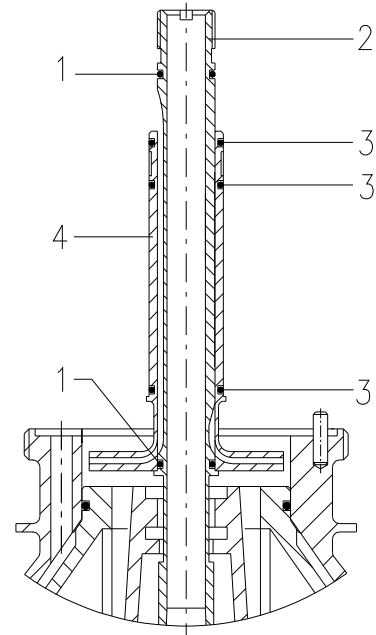
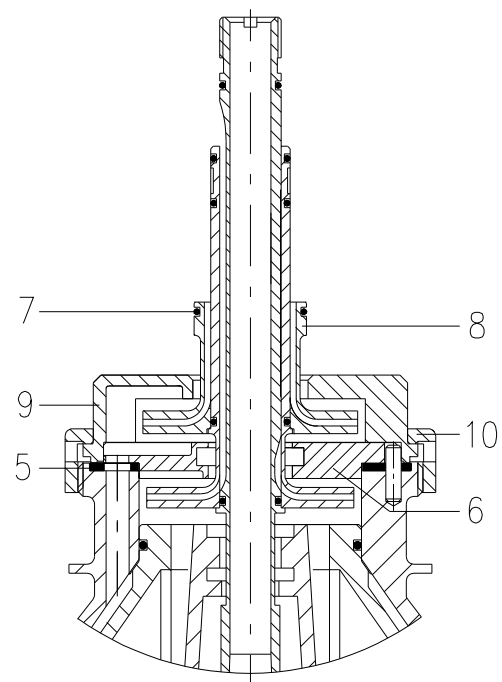
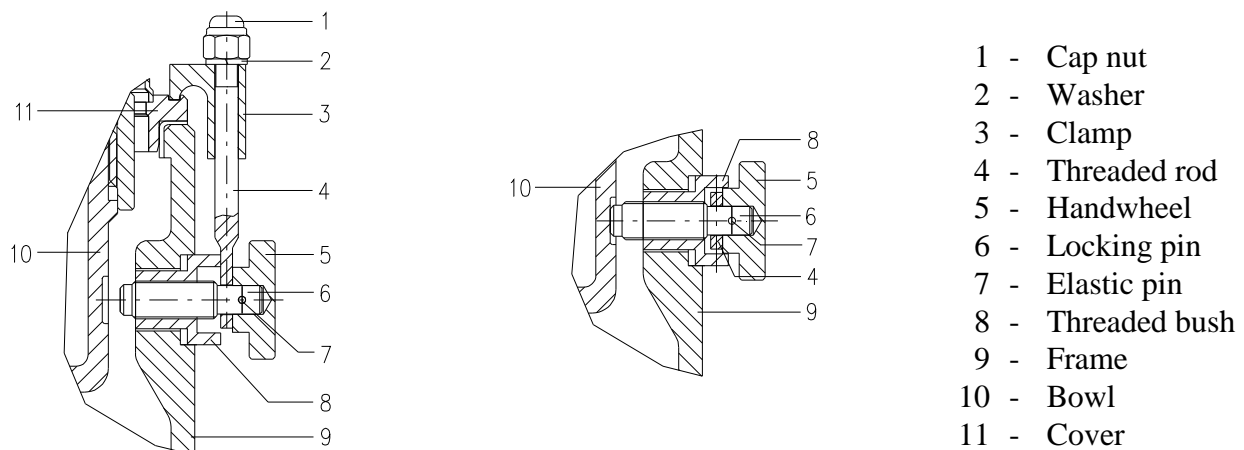
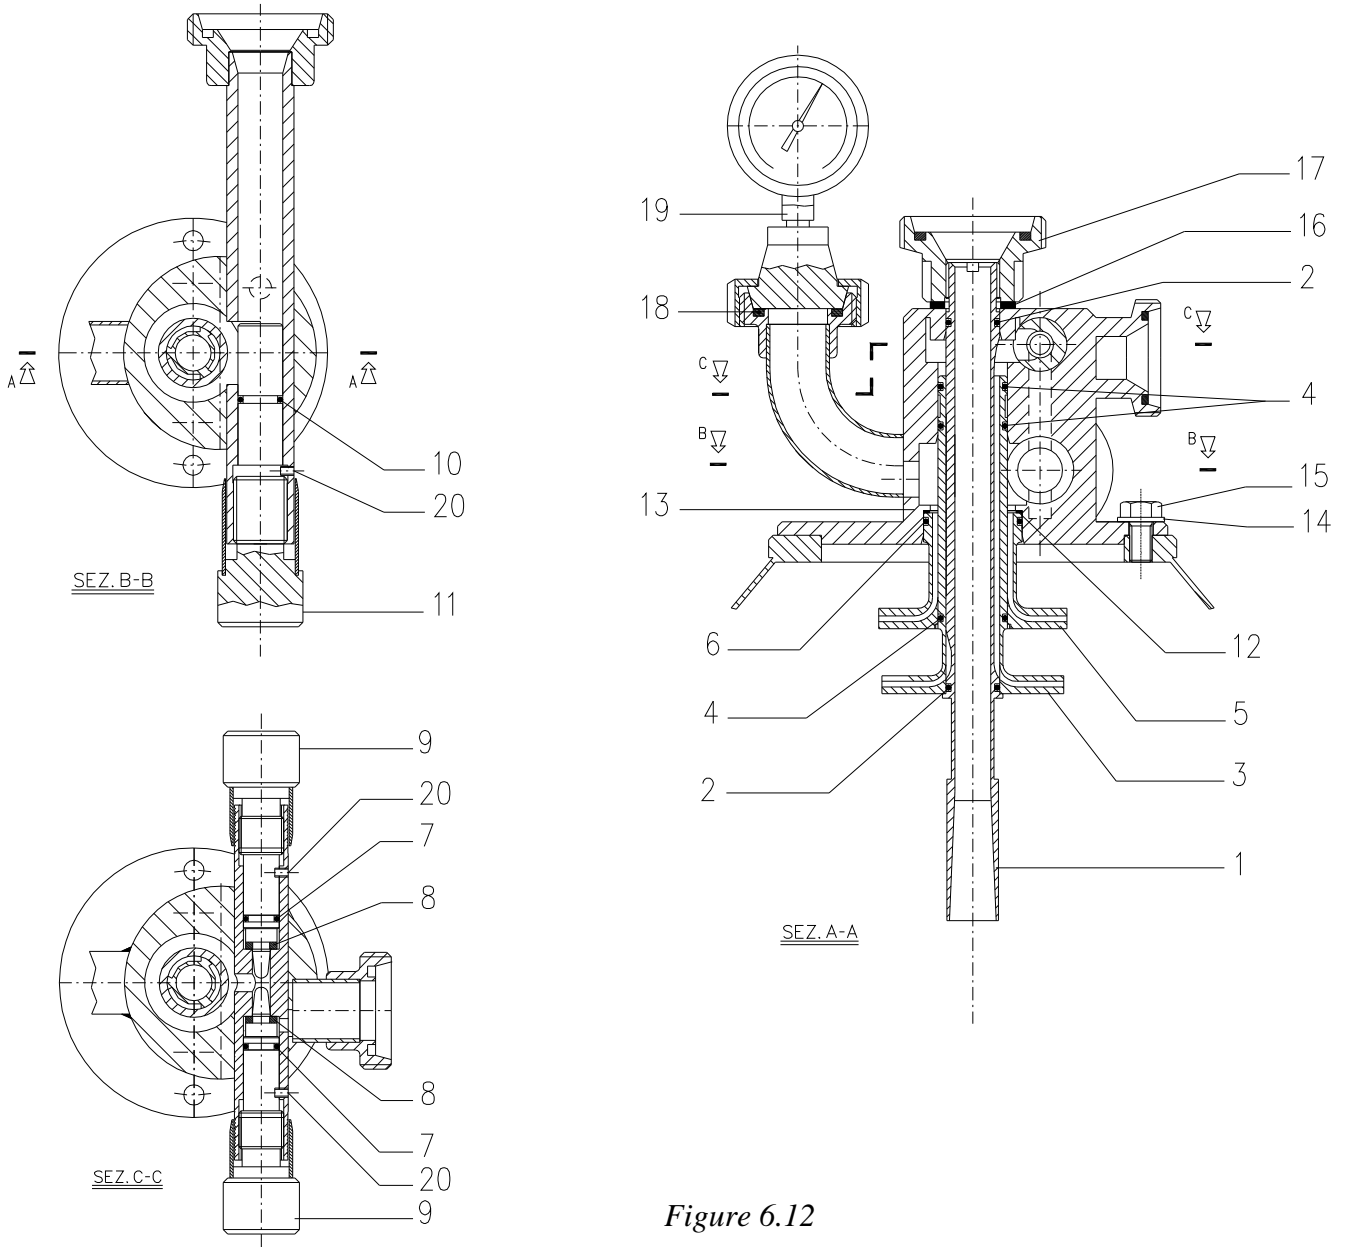

Figure 6.9
Figure 6.10
Figure 6.11
Figure 6.12
- 13) After carefully cleaning the groove, insert the **OR gaskets** (fig. 6.9 - part 1) on **feeding pipe** (2) and place it down.
- 14) Apply the three **OR gaskets** (3) in the **cream centripetal pump** (4), and insert it on feeding pipe.
- 15) After carefully cleaning the suitable seat, apply the **gasket of dividing disk** (fig. 6.10 - part 5) on bowl hood top checking that the pin on the bowl hood correctly enter in the suitable hole on the gasket.
- 16) Apply the **dividing disk** (6) aligning the “0” with the “0” of the bowl hood.
- 17) Apply the three **OR gaskets** (7) in the **skim centripetal pump** (8), and insert it on feeding pipe.
- 18) Place the **finned cover** (9), and take care that the “0” marks aligned.
- 19) Using the spanner (09.060.0) and the mallet (09.030.0), screw (left-hand thread) the **small lock ring** (10).
- 20) Unscrew the locking pins (fig. 6.11), by turning anticlockwise the handwheel (5).
- 22) Place the cover on the frame, paying attention to not damage threads on feeding pipe, and fix it down tightly by suitable blockings (fig. 6.11). Proceed as follows:
- Lay the clamp (3) to the cover (11) and fix it down by screwing the cap nut (1).
Proceed according with the following procedure (fig. 6.12):
Block the shutter screwing the appropriate screw STCEIEPS M 4X 6 (20-fig.6.12).
The correct position of pumps is shown by fig. 6.10; the pump is in the middle of the corresponding chambers of the bowl. This position is obtained by inserting a few spacers (12) - fig. 6.12 between the centripetal pump (5) and the inlet-outlet flow unit body (13). The number and thickness of spacers may vary only after the replacement of some parts of the vertical shaft unit (Tab. 06) and/or of the bowl (Tab. 04) and/or of the inlet-outlet flow unit (Tab. 05). In this case it is advisable to vary corresponding number and thickness of spacers indicated on technical card § 3.3. The total thickness of spacers is determined by the following relation:
Proceed in inverse order than assembly (see Fig. 6.12).
- loosen the cap nuts (1 - fig. 6.11) of the blocking elements;
- remove the clamp (3 - fig. 6.11). This allow the threaded rod to rotate and assume the horizontal position;
- take out the cover (11 - fig. 6.11).
- 2) Screw the **locking pins** to prevent bowl rotation (fig. 6.11). To do this:
- screw the first locking pin (6), by turning clockwise the handwheel (5). It fit the circular groove on the bowl body. Do not force the locking;
- 3) By the spanner (09.060.0) and the mallet (09.030.0), unscrew the **small lock ring** (9 - fig. 6.9).
- 14) Unscrew the locking pins (6 - fig. 6.11), by turning them anticlockwise.